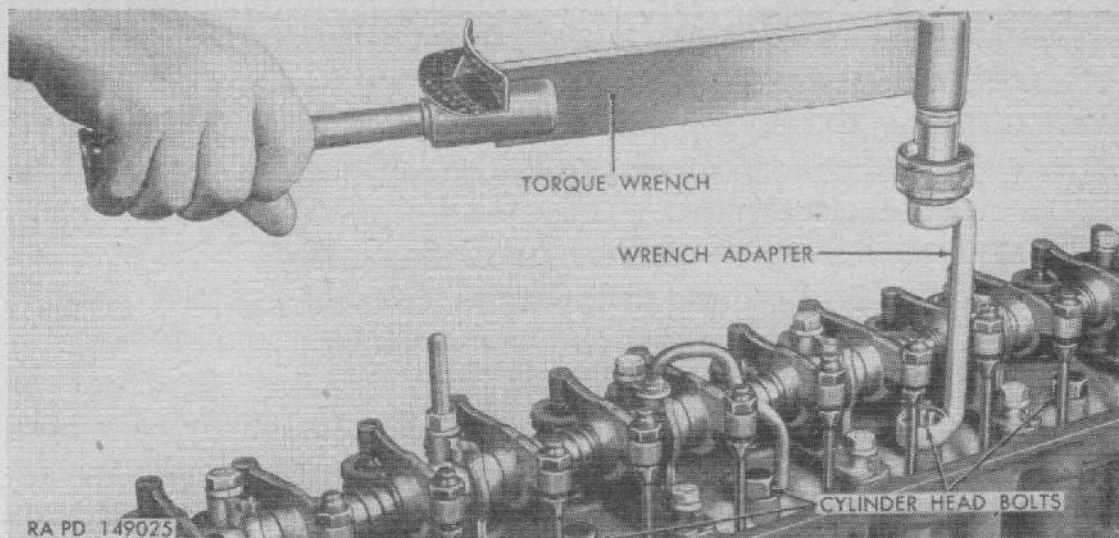

Figure 35. Use of torque wrench and adapter.
c. CHECK CYLINDER HEAD BOLTS. Use torque wrench and adapter (fig. 35) to check cylinder head bolt tension before adjusting valve clearance. Cylinder head bolts should be tightened to 75 to 80 pound-feet torque.
Note. After engine is started, run until minimum normal operating temperature is reached (160° F.); then check head bolts with torque wrench. Use an adapter and torque wrench (fig. 35).